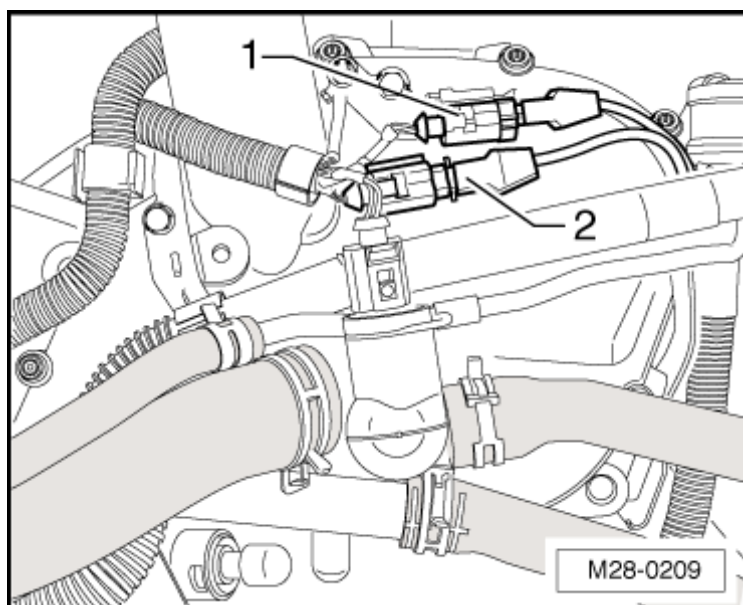

Fig. 10: Identifying Installation Position Of Harness Connectors For Knock Sensors
- Installed location, refer to **Fig. 10**.